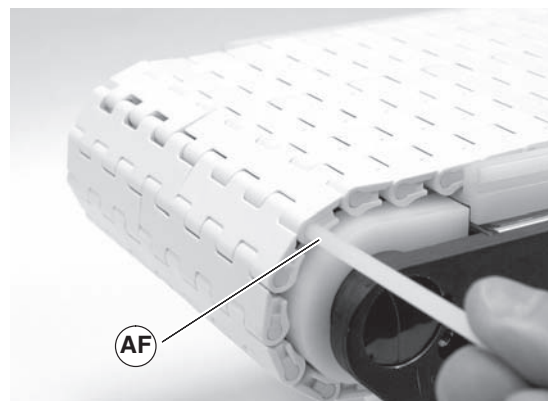

Figure 14
6. Splice the belt together by pushing the plastic rod (Figure 14, item AF) through the side hole.